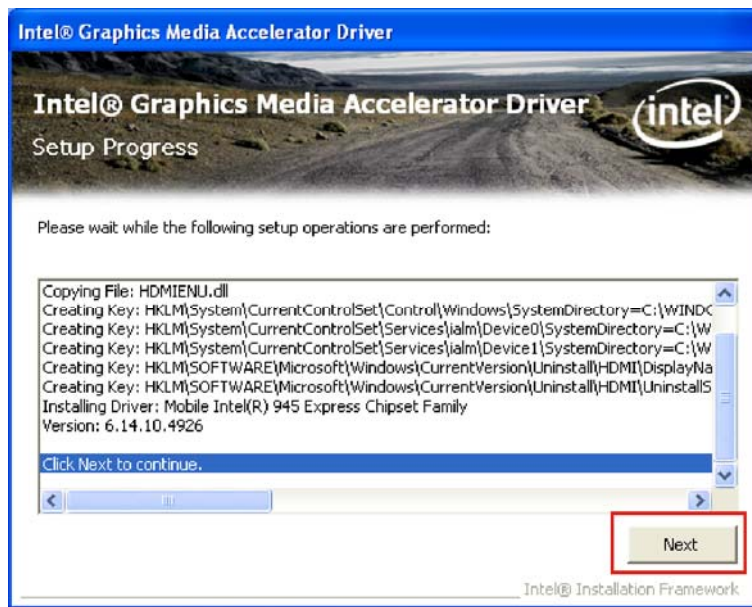

Figure 6-14: VGA Driver Setup Operations
Step 13: Setup Operations are performed as shown in Figure 6-14.